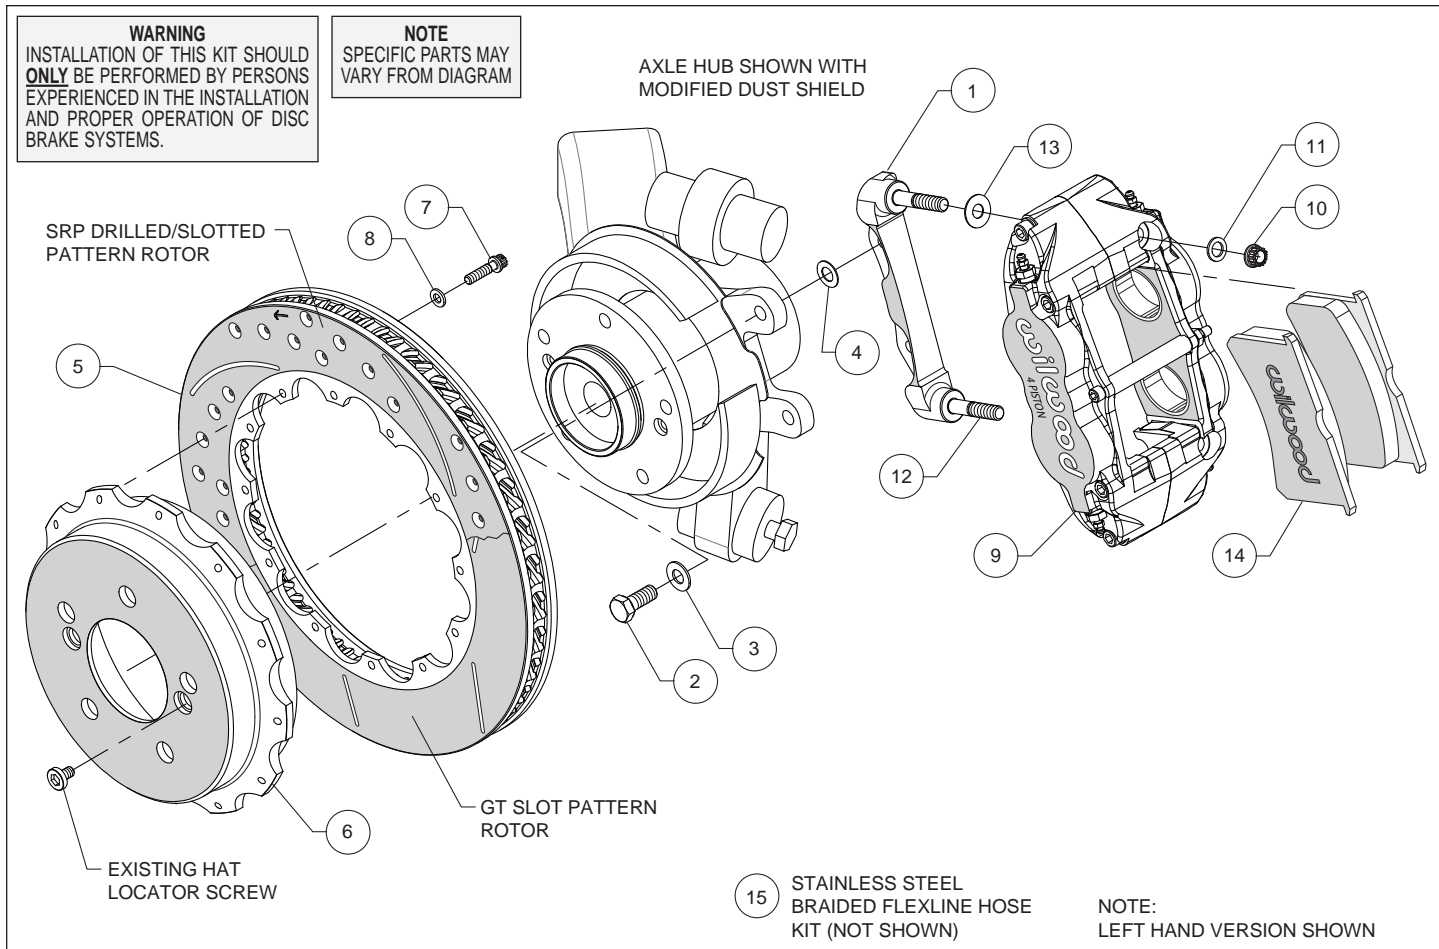
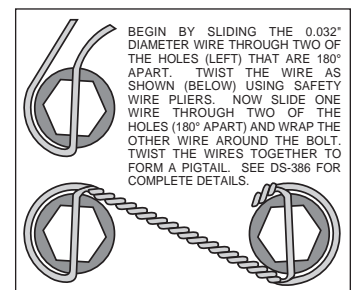

Figure 1. Typical Installation Configuration
Figure 3. Safety Wire Diagram
Assembly Instructions (numbers in parenthesis refer to the parts list and Figure 1 on the preceding pages):
- The caliper mount bracket (1) should initially be installed with clean, dry threads on the mounting bolts. Orient the bracket as shown in Figure 1 and Photo 3, and install using bolts (2) and washers (3). Initially place one .030 thick shim (4) on each bolt between the bracket and upright, Figure 1. Temporarily tighten the mounting bolts. **NOTE:** The bracket must fit squarely against the mounting points on the upright. Inspect for interference from casting irregularities, machining ridges, burrs, etc. Later, after the caliper alignment has been checked, the mount bolts will be secured using red *Loctite*® 271.
- Orient the rotor (5) and the hat (6) as shown in Figure 1 and Photo 4. Attach rotor to hat using bolts (7) and washers (8). Using an alternating sequence, apply red *Loctite*® 271 to the threads, and torque to 155 **in-lbs**. For an added measure of security, the bolts may be safety wired using standard 0.032 inch diameter stainless steel safety wire as shown in Figure 3. Please refer to Wilwood's data sheet DS-386 (available at www.wilwood.com/Pdf/DataSheets/ds386.pdf) for complete safety wire installation instructions.
- Lubricate the caliper mounting studs (12) with lightweight oil. Initially place one .035" thick shim (13) on each stud as shown in Figure 1 and Photo 6. Mount the caliper (9) onto the bracket (1) using lock nuts (10) and washers (11), Figure 1. Temporarily tighten the lock nuts and view the rotor through the top opening of the caliper. The rotor should be centered in the caliper, Photo 7. If not, adjust by adding or subtracting shims (4) between the bracket and the mounting bosses. Always use the same amount of shims on each of the two mounting bolts. Once the caliper alignment is correct, remove the bracket mounting bolts (2) one at a time, apply red *Loctite*® 271 to the threads, and torque to 35 ft-lb.
- Remove the caliper center bridge pad retainer bolt, nut, and tube from the caliper. Insert the brake pads (14) into the caliper, with the friction material facing the rotor, as shown in Photo 8. Check